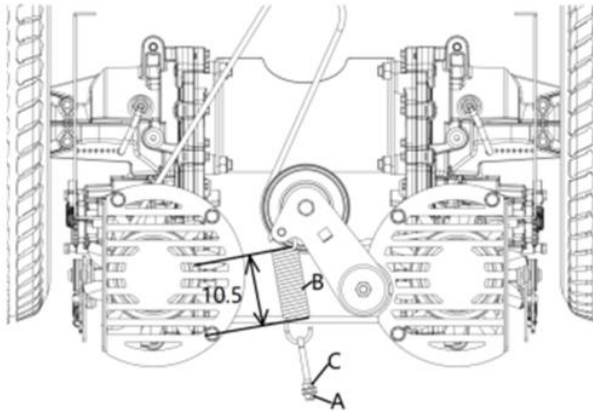

Fig. 20
The way is similar to the above of Deck Belt Adjustment ,The idler spring (B) body length should measure approximately 11cm for proper belt tension(Refer to Fig. 20).